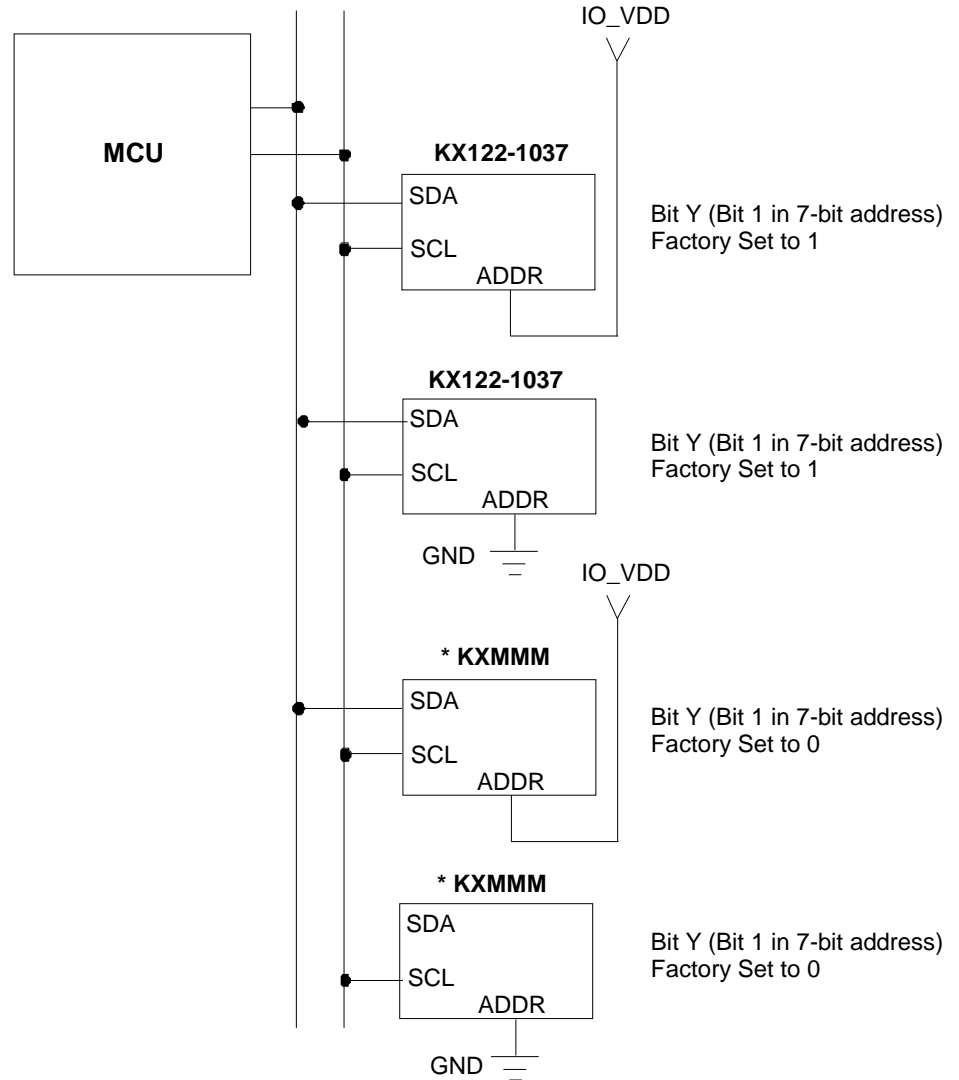

Figure 1: Multiple KX122 Accelerometers on a Shared I²C Bus
Transactions on the I²C bus begin after the Master transmits a start condition (S), which is defined as a high-to-low transition on the data line while the SCL line is held high. The bus is considered busy after this condition. The next byte of data transmitted after the start condition contains the Slave Address (SAD) in the seven MSBs (Most Significant Bits), and the LSB (Least Significant Bit) tells whether the Master will be receiving data '1' from the Slave or transmitting data '0' to the Slave. When a Slave Address is sent, each device on the bus compares the seven MSBs with its internally stored address. If they match, the device considers itself addressed by the Master. The KX122 Slave Address is comprised of a user programmable part, a factory programmable part, and a fixed part, which allows for connection of multiple accelerometers to the same I²C bus. The Slave Address associated with the KX122 is 00111YX, where the user programmable bit X, is determined by the assignment of ADDR (pin 1) to GND or IO_VDD. Also, the factory programmable bit Y is set at the factory. **For KX122-1037, the factory programmable bit Y is fixed to 1** (contact your Kionix sales representative for list of available devices). Table 7 lists possible I²C addresses for KX122-1037. As a result, up to four accelerometers can be implemented on a shared I²C bus as shown in Figure 1 on the next page (e.g. two KX122-1037 accelerometers and two other accelerometers with factory programmable bit Y set to 0).